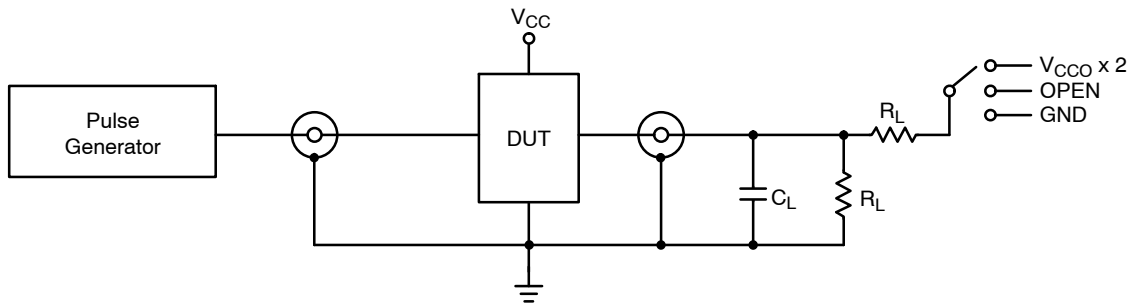

Figure 3. AC (Propagation Delay) Test Circuit
1. Propagation delays defined per Figures 3 and 4.